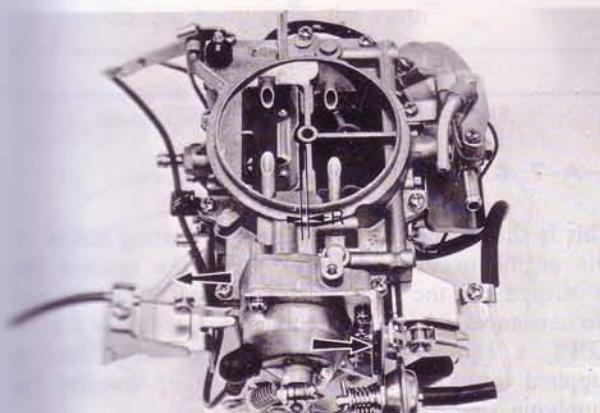

Fig. 4-11 Adjusting bimetal spring
Push the diaphragm plunger in fully and keep its position by wire as shown in Fig. 4-11.
c. Check the choke valve clearance (R) as shown in Fig. 4-11.
d. If the clearance (R) is not within specifications, first turn (A) then turn (B) to adjust the clearance (R).